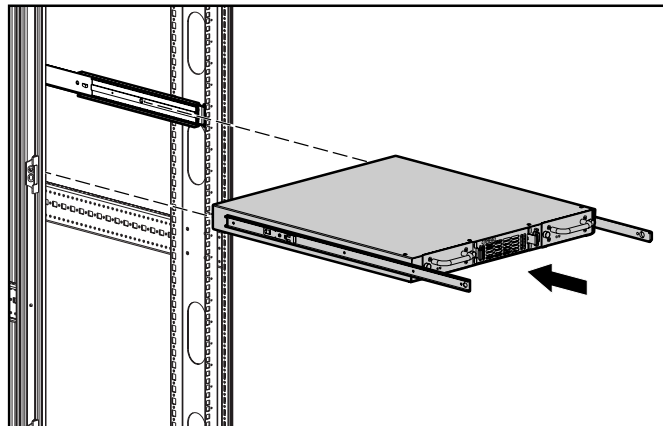

Figure 17: Installing the router into the rack
6. Install the router in the rack (see Figure 17).